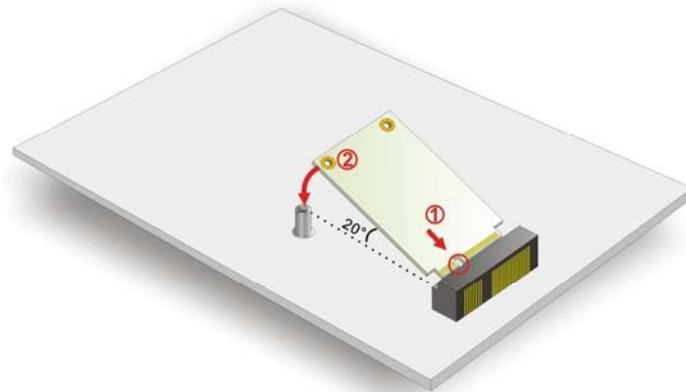

Figure 4-10: Insert the mSATA Card into the Socket at an Angle
Step 3: Insert into the socket at an angle. Line up the notch on the card with the notch on the connector. Slide the mSATA card into the socket at an angle of about 20° (**Figure 4-10**).